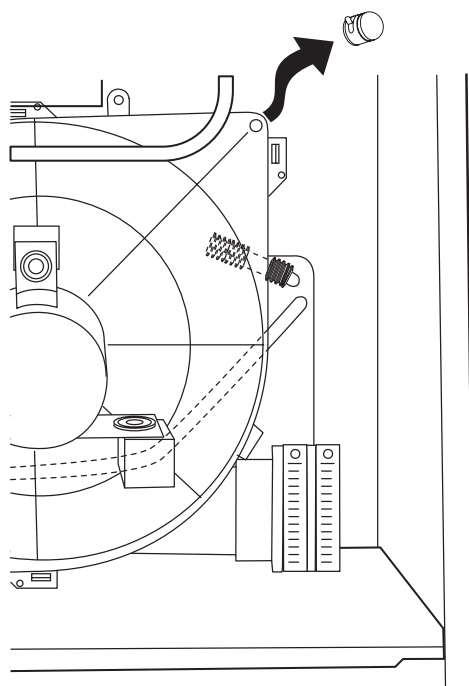

Fig. 14—Inducer Housing Drain Cap
3. Disconnect cap from unused drain tap on inducer housing. (See Fig. 14.)